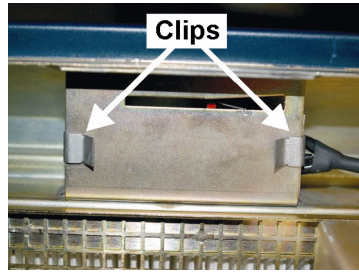

Figure 5 Place mounting bracket on frame and install clips
2. Attach security switch assembly to the welded bracket just below the key lock so that the harness is facing away from the front of the projector. Ensure that edges do not stick out past the welded bracket edges. Press the assembly against the welded bracket for 10 seconds in order to ensure proper adhesion (Figure 5).
3. Install 1 metal clip at each end of the security switch assembly keeping the flat side of the clip to the inside of the welded bracket (Figure 5).